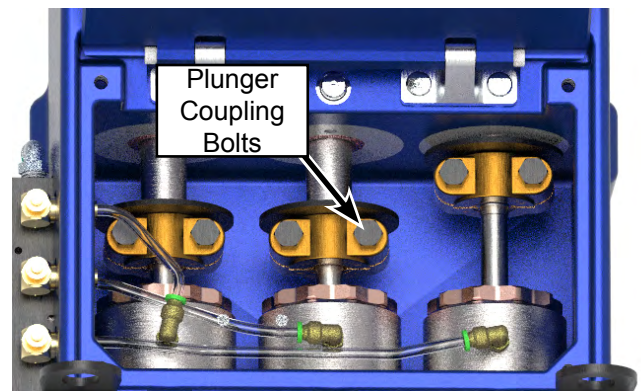

Figure 130: Remove Plunger Coupling.
2. Open the rod box cover and remove the two capscrews that secure the plunger coupling (Figure 130) to the plunger and remove the coupling.